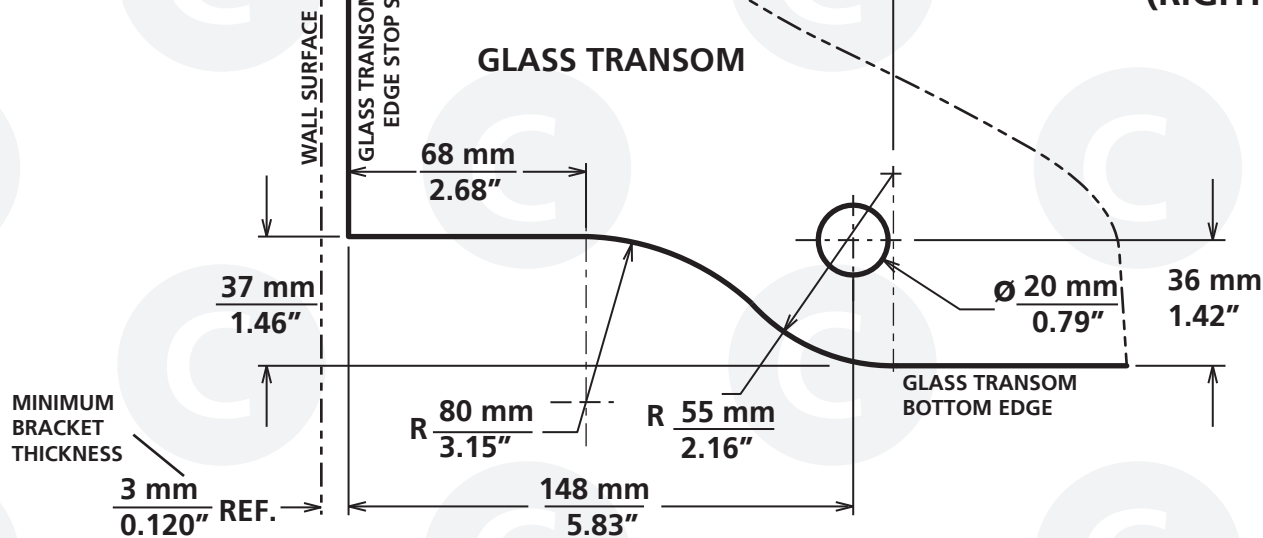
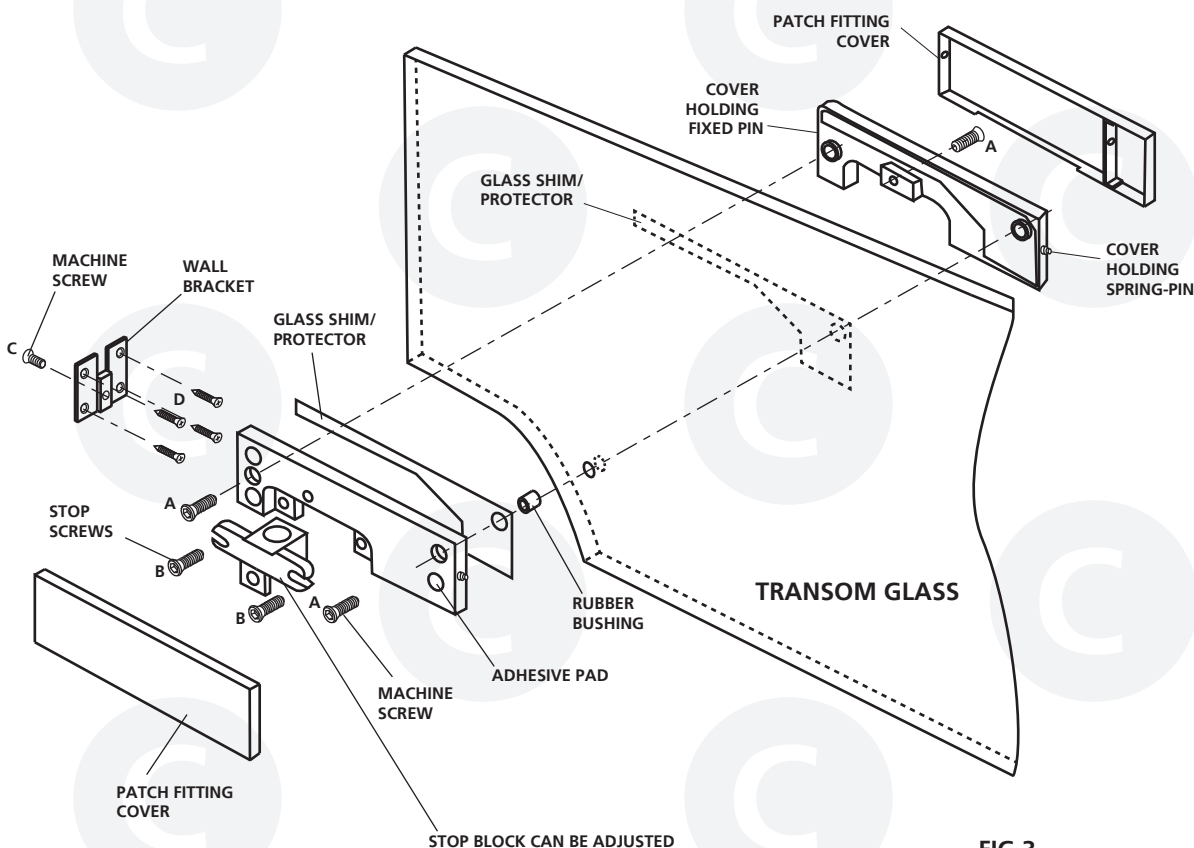

FIG.2
FIG.3
1. Prepare and make cuts on the glass transom (refer to the dimensions supplied in fig.2).
2. Attach wall bracket to the patch stop with supplied machine screw (C).
3. Insert rubber bushing in to glass hole and position stop patch on glass transom (refer to fig. 3), shim as required to accommodate glass thickness and fasten assembly with the three (3) supplied machine screws (A).
4. Attach wall bracket to wall using supplied mounting hardware (D), or using other suitable hardware.
6. Adjust stop as required and secure stop in place using stop screws (B)